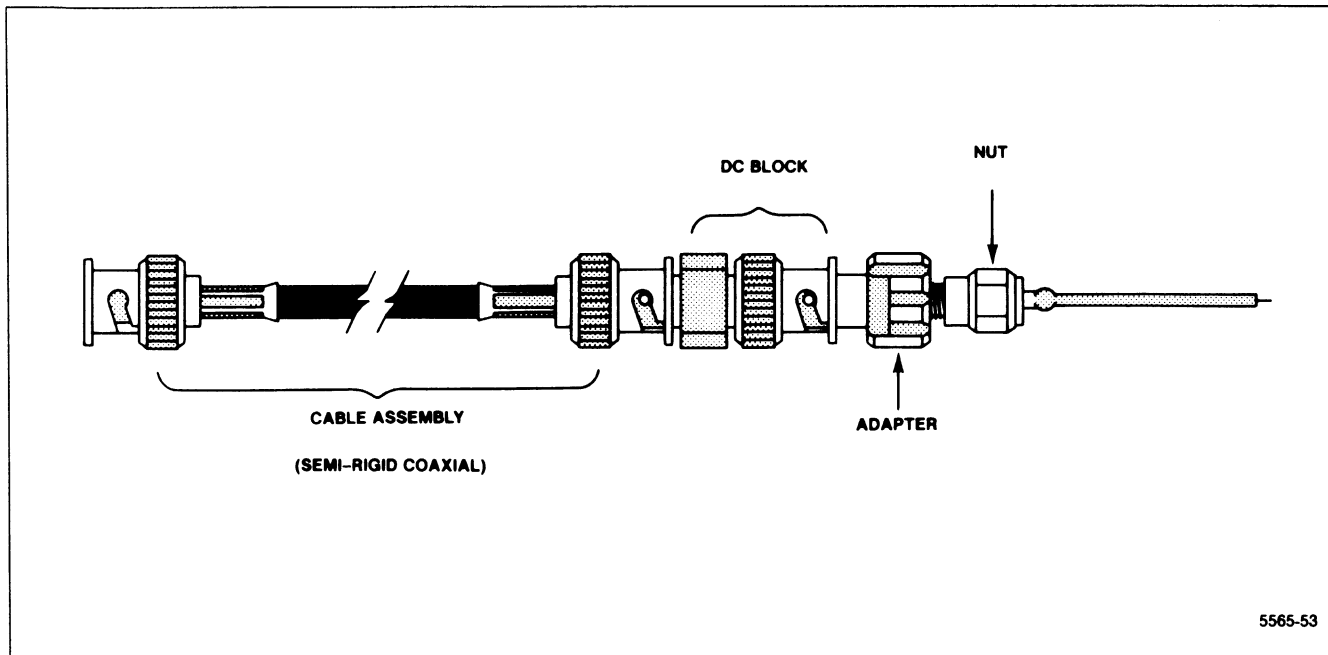

Figure 6-18. Coaxial test probe construction details.
a. Use a probe, consisting of a short length of semi-rigid coaxial cable with a dc block (see Figure 6-18), to connect the output of the reference mixer at C2204 to the input of the test spectrum analyzer. Ground the outer shield of the coaxial cable against the 2nd LO housing.
When making power measurements of microwave circuitry, at circuit board interfaces, use a coaxial probe with very little stray inductance (see Figure 6-18). Ground the outer conductor of the probe to the circuit housing as close as possible to the measurement port. Disconnect other loads from the measurement point.